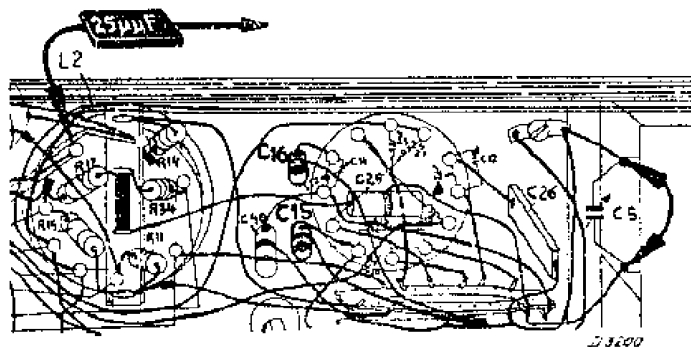

Fig. 5.
8. Short-circuit the oscillator by connecting a wire across C5 (Fig. 5).
13. Trim C15 for maximum output (Fig. 5).
7. Short-circuit the oscillator by connecting the wire across C5 (Fig. 5).
11. Trim C16 for maximum output (Fig. 5).